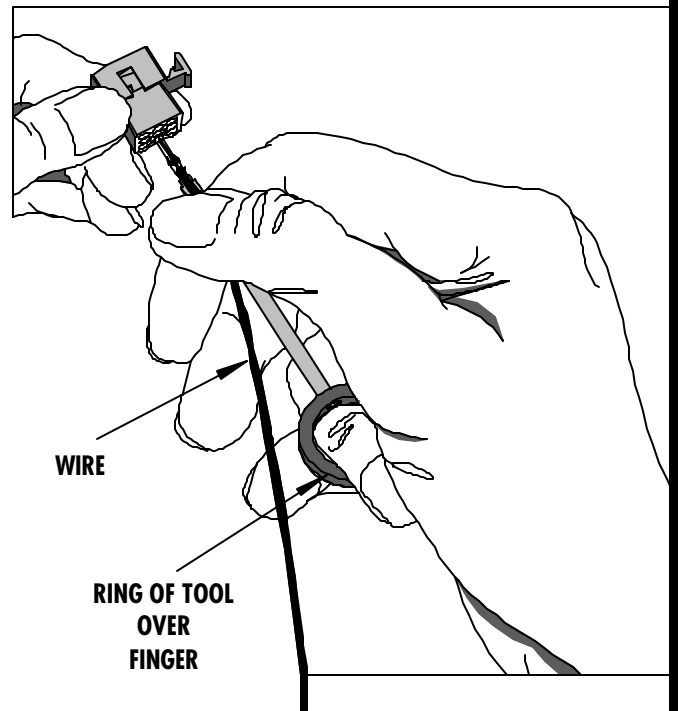
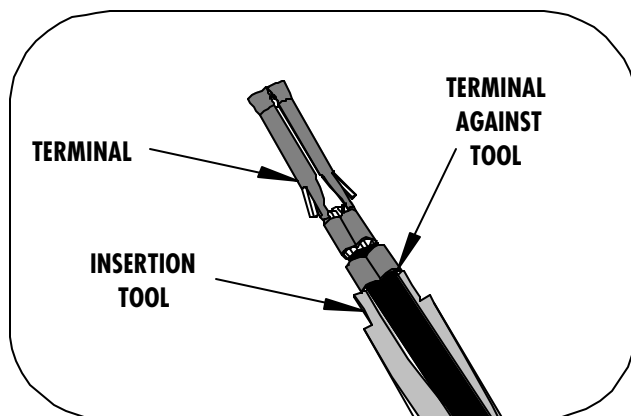

Figure 1
Figure 2
- 1) To properly use this tool, with the flat side facing up, place the ring over the ring finger past the first joint (See Figure 1). Place the wire in the groove of the tool so that the terminal is touching the end of tool (See Figure 2).